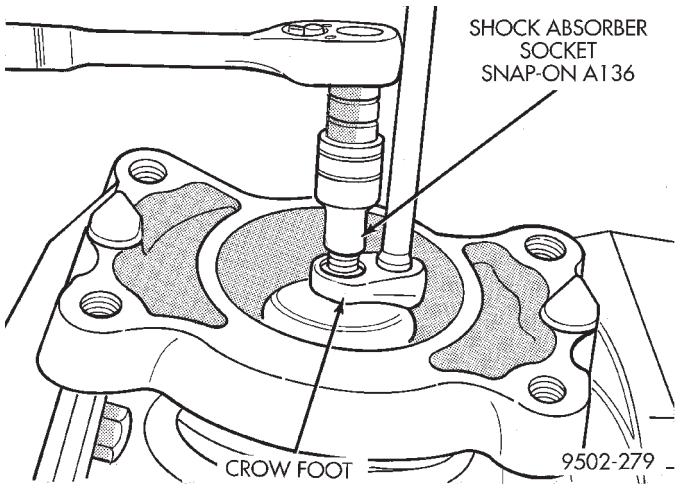

Fig. 87 Shock Absorber Shaft Nut Removal/Installation
(4) Hold the rod of the shock absorber from rotating using Shock Absorber Socket, Snap-On A136 or an equivalent (Fig. 87). Then remove the shock absorber shaft nut.
(11) Install nut on rod of shock absorber assembly. Install Shock Absorber Socket, Snap-On A136 or an equivalent on end of shock rod to keep rod from turning (Fig. 87) Then tighten rod nut using a crowfoot (Fig. 87) to a torque of 55 N·m (40 ft. lbs.).
(12) Relieve all tension from spring compressor. After all spring tension has been removed from the spring compressor, remove it from the shock absorber assembly.
(13) Remove the clevis from the shock absorber. The clevis must be removed from the shock absorber for installation in vehicle.
(14) Install shock absorber assembly back in the vehicle. Refer to Shock Absorber Installation in this section of the service manual for the proper procedure